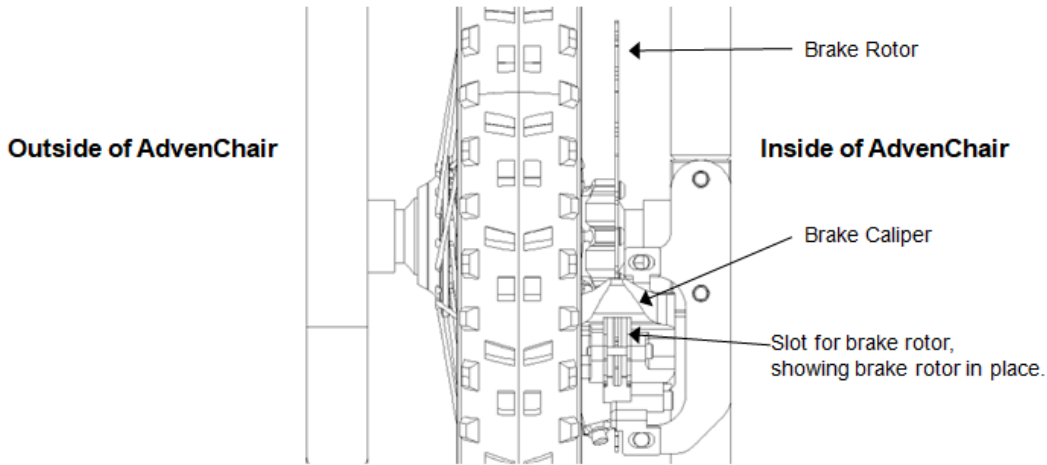
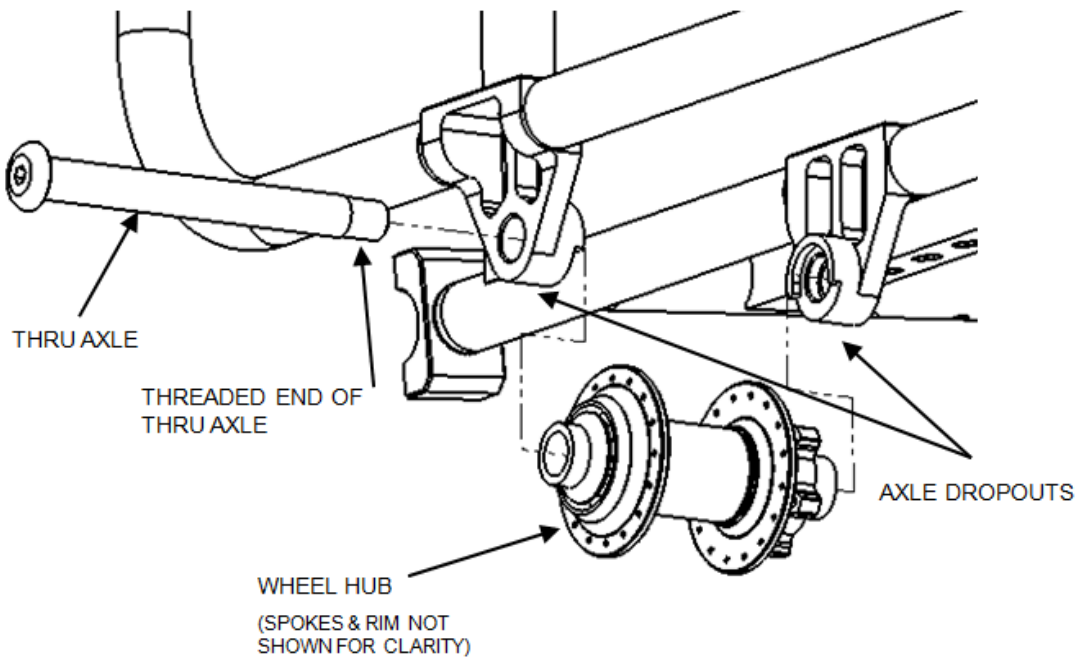

Figure 4. Installing the main wheels--Inserting the brake rotors into the brake caliper.
Figure 5. Install or remove the main wheels--Inserting the hub and axle.
- ii. Unscrew the axles from each wheel with the 6mm hex wrench and pull the wheels “down” and away from the chair (Figure 5).
- ii. Place each wheel in position with the brake rotor in the brake caliper slot (Figure 4) and the wheel hubs in their dropouts (Figure 5). Make sure to slide the brake rotor straight into the brake caliper slot to avoid damaging the rotor and the brake pad.